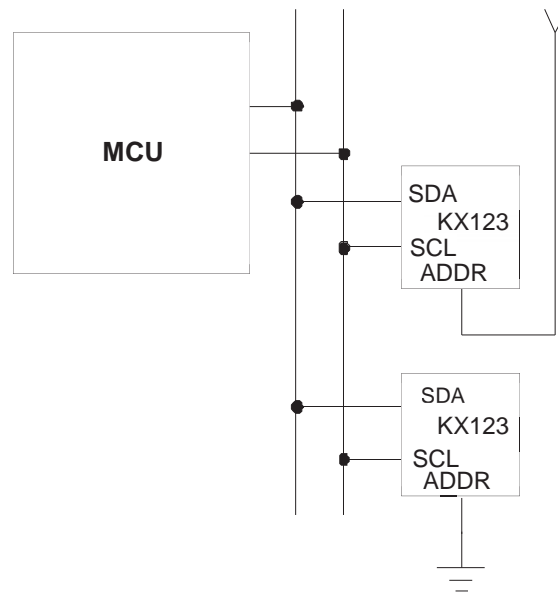

Figure 1. Multiple KX123 I²C Connection
Transactions on the I²C bus begin after the Master transmits a start condition (S), which is defined as a high-to-low transition on the data line while the SCL line is held high. The bus is considered busy after this condition. The next byte of data transmitted after the start condition contains the Slave Address (SAD) in the seven MSBs (Most Significant Bits), and the LSB (Least Significant Bit) tells whether the Master will be receiving data '1' from the Slave or transmitting data '0' to the Slave. When a Slave Address is sent, each device on the bus compares the seven MSBs with its internally stored address. If they match, the device considers itself addressed by the Master. The KX123's Slave Address is comprised of a programmable part and a fixed part, which allows for connection of multiple KX123's to the same I²C bus. The Slave Address associated with the KX123 is 001111X, where the programmable bit, X, is determined by the assignment of ADDR (pin 1) to GND or IO_Vdd. Figure 1 above shows how two KX123's would be implemented on an I²C bus.